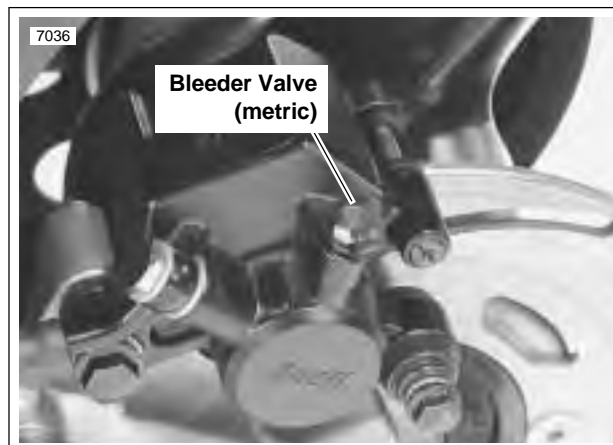

Figure 2-38. Rear Caliper Bleeder Valve (Metric)
1. See Figure 2-38. Drain brake fluid into a suitable container. Dispose of used fluids according to local laws.